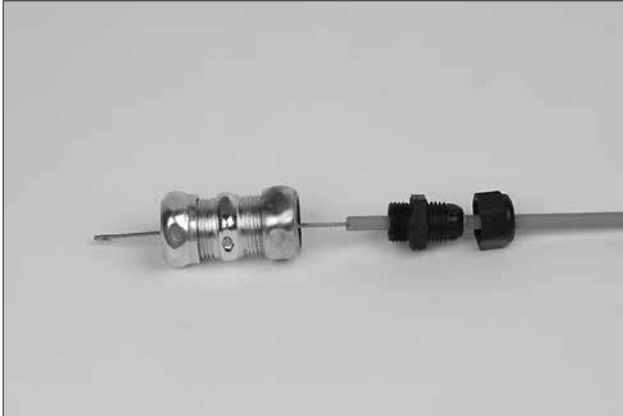

FIGURE 4-70
3. Tighten compression union nut onto union body, locking flexible conduit insert in place. See Figure 4-70.